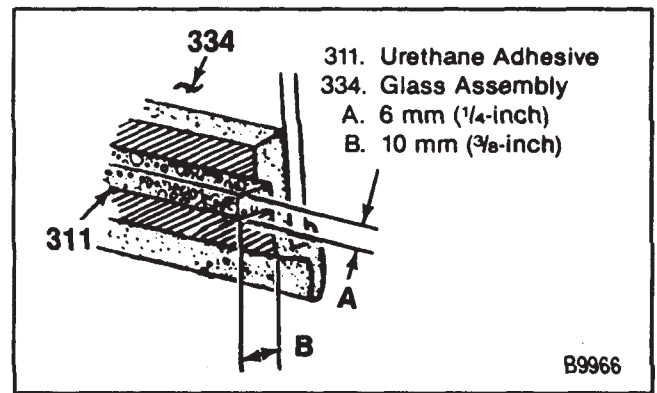

Figure 19—Adhesive Application Points
- Apply a bead 10 mm (3/8 inch) high and 6 mm (1/4 inch) wide along the entire inner edge of the molding (figure 19).